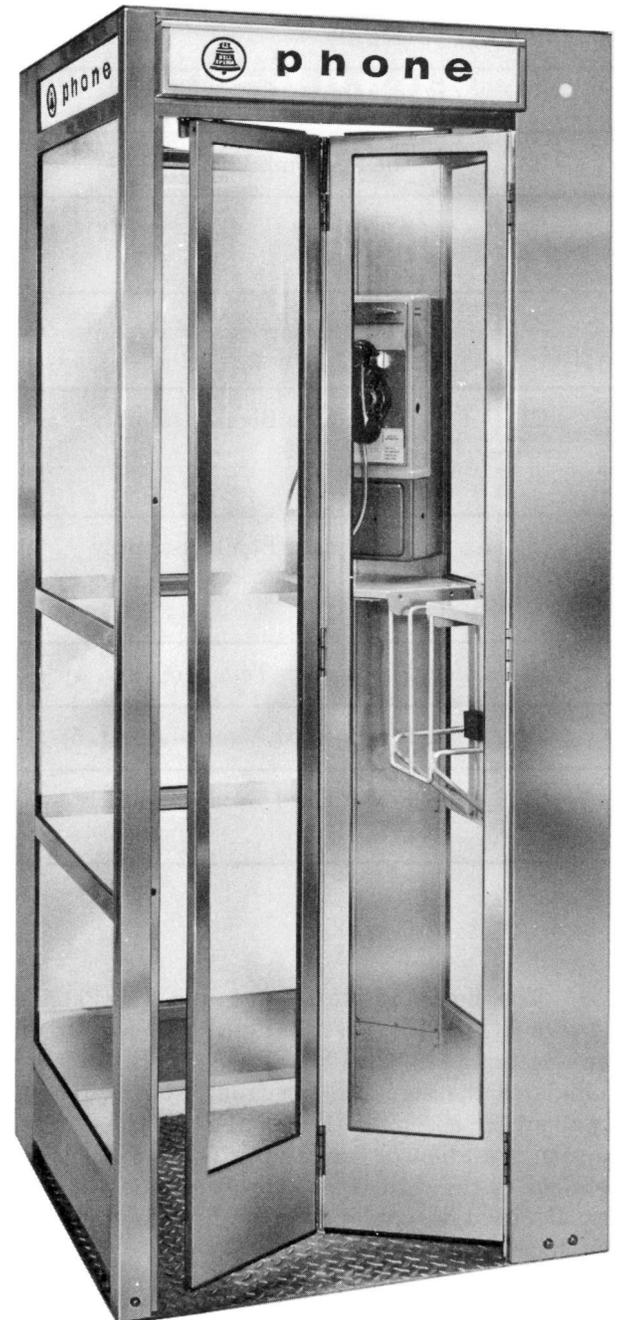

Fig. 1—KS-19580 Booth (Outdoor)
1.02 The KS-19580 booth (Fig. 1) is an outdoor aluminum and glass telephone booth designed for single or multiple side-by-side installations.
2.09 A translucent sign framed in aluminum, is mounted over the door and projects 1-1/2 inches beyond the front of the booth (Fig. 1). Refer to Table B for available signs.